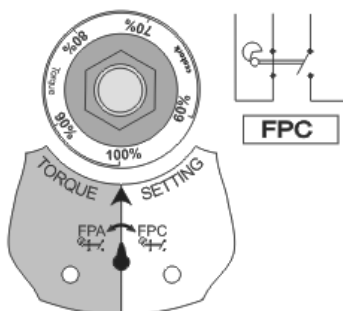
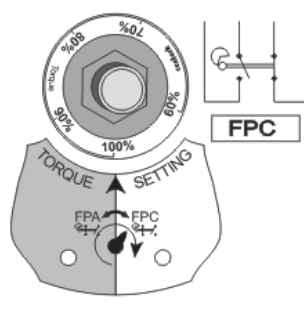
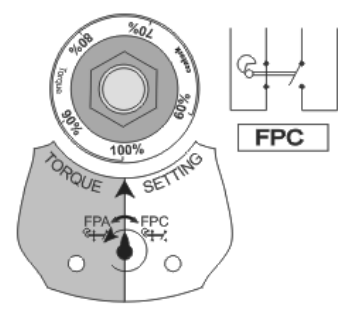

Figure 10.4-1
Figure 10.4-2
Figure 10.4-3
- When torque on valve shaft exceeds the value set, e.g. running to close, shaft **T** turns to the right (Pointing to FPC), at the same time **TORQUE LIMIT DEVICE** releases (Figure 10.4-1 and Figure 10.4-2). FPC microswitch is tripped. Automatically, or when actuator starts running to opposite direction, mechanism returns or resets. Notice that **TORQUE LIMIT DEVICE** latches again (Figure 10.4-3).